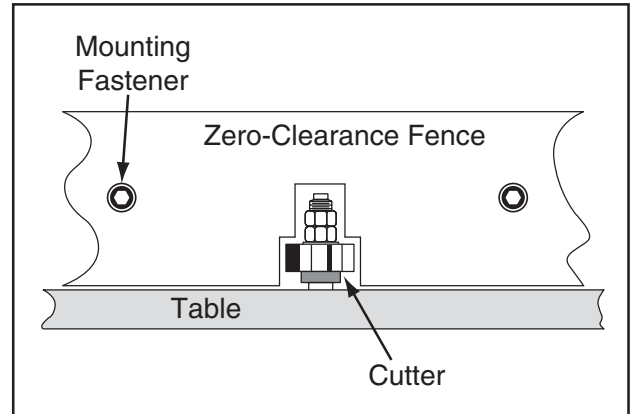

Figure 33. Example of a zero-clearance fence.
4. Cut an outline of the spindle and cutter from the center of the stock selected in **Step 3**, as illustrated in **Figure 33**.